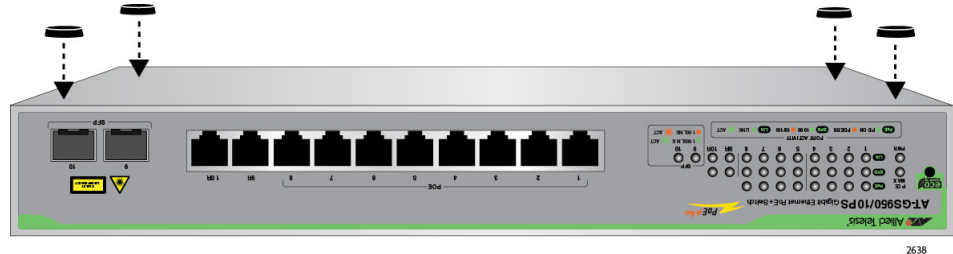

Figure 19. Attaching the Rubber Feet
3. Attach the four rubber feet to the bottom of the switch as shown in Figure 19.